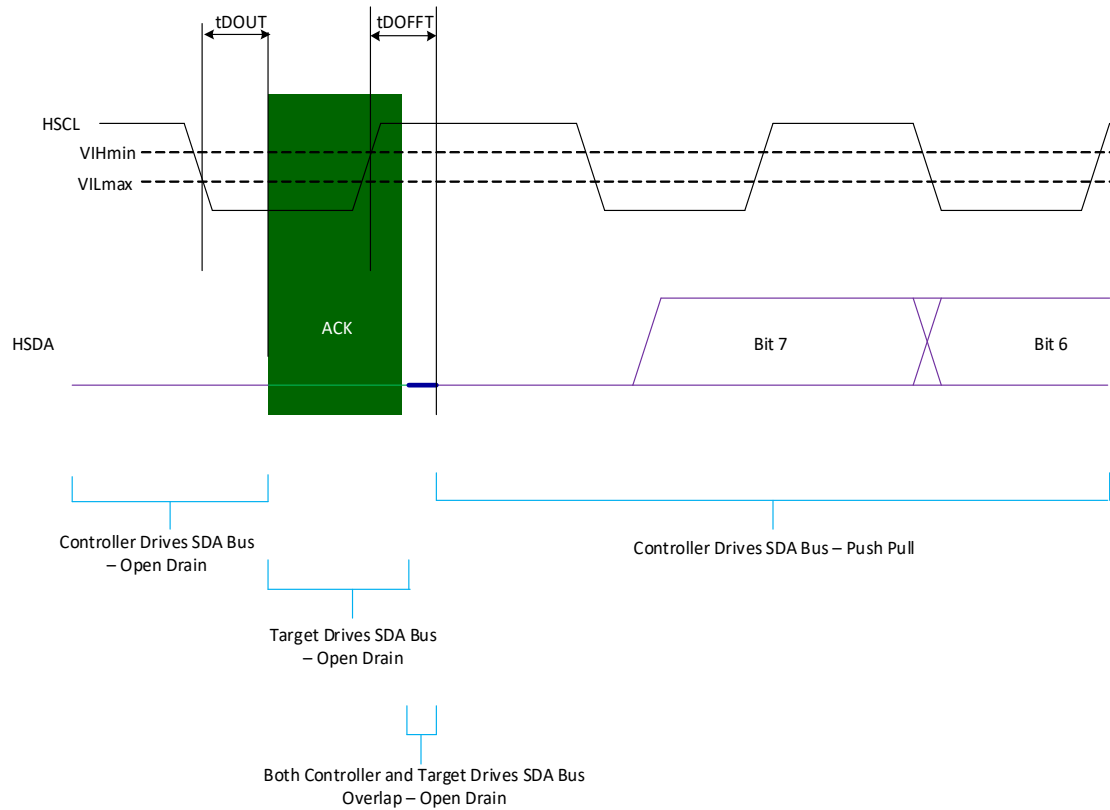
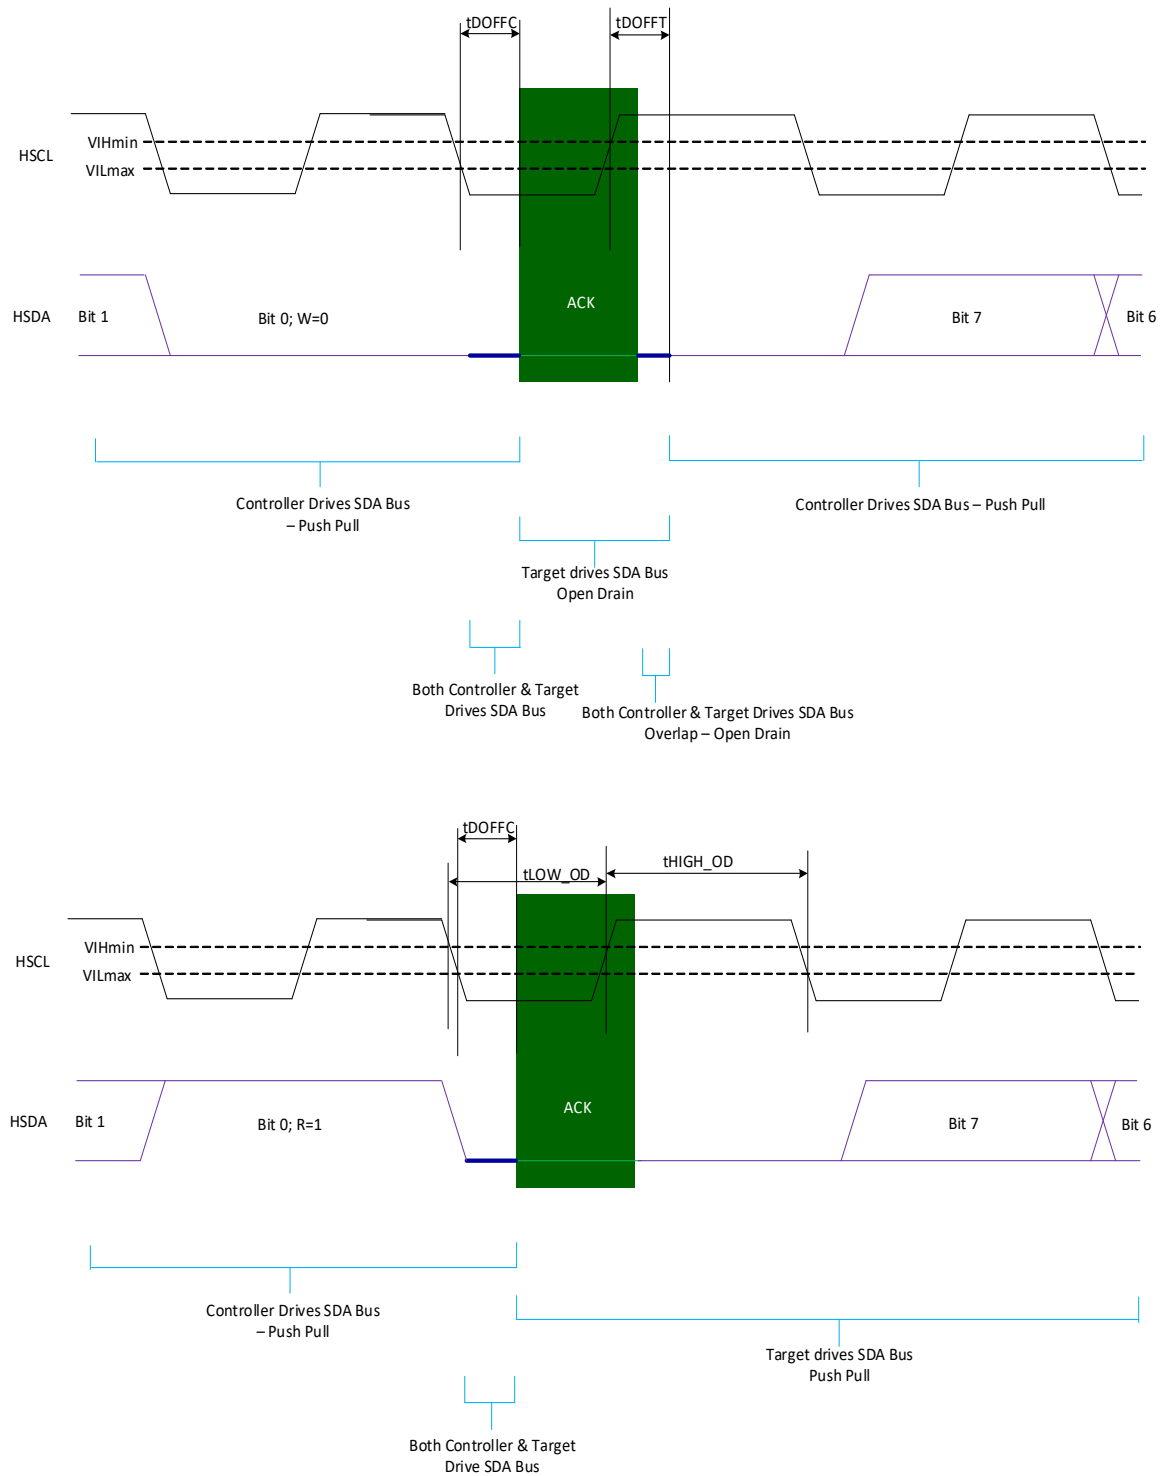

Figure 34 — Target Open Drain (ACK) to Controller Push Pull Hand Off Operation
Figure 36 — Controller Push Pull to Target Open Drain Hand Off Operation
- NOTE 1 See Figure 34 to see how the transition occurs from Target Open Drain (ACK) to Host Push Pull operation (Repeat Start).
- NOTE 3 See Figure 36 to see how the transition occurs from Host Push Pull Operation to Target Open Drain (ACK) and Figure 34 to see how the transition occurs from Target Open Drain (ACK) to Host Push Pull operation (Address bit 7).
- NOTE 5 See Figure 36 to see how the transition occurs from Host Push Pull Operation to Target Open Drain (ACK).
NOTE 1 See Figure 34 to see how the transition occurs from Target Open Drain (ACK) to Host Push Pull operation (Repeat Start).
NOTE 4 See Figure 36 to see how the transition occurs from Host Push Pull Operation to Target Open Drain (ACK) and See Figure 34 to see how the transition occurs from Target Open Drain (ACK) to Host Push Pull operation (Address bit 7).
NOTE 5 See Figure 36 to see how the transition occurs from Host Push Pull Operation to Target Open Drain (ACK).
- NOTE 3 See Figure 36 to see how the transition occurs from Host Push Pull Operation to Target Open Drain (ACK).